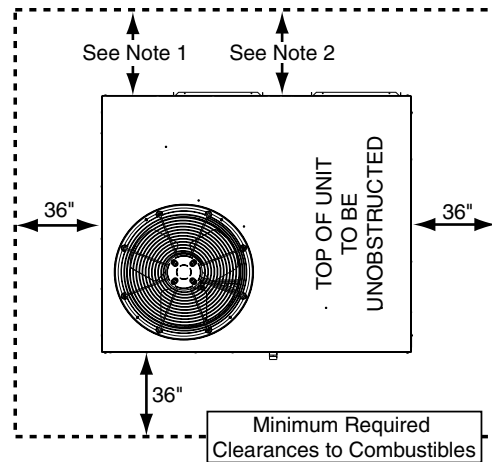

Figure 2. Clearance Requirements
- Provide adequate clearances around the air vent intake terminal. See Figure 2 (page 7).
- Sufficient clearance for unobstructed airflow through the louvered control access panel and outdoor coil must be maintained in order to achieve rated performance. See Figure 2 for minimum clearance requirements.